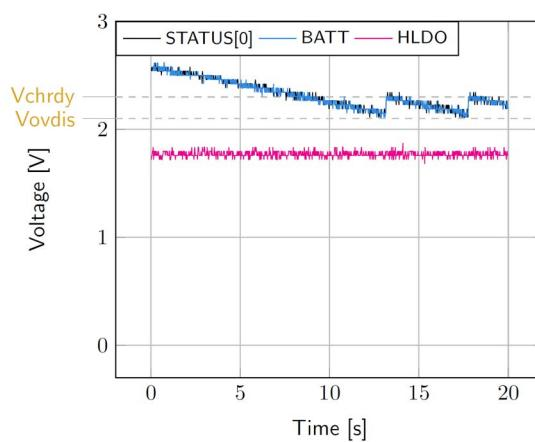

Figure 6: Switching from **SRC** to the primary battery
- **BATT**: voltage decreases as the system consumes the power accumulated in the storage element. The voltage reaches  $V_{\text{OVDIS}}$  and then rises again to  $V_{\text{CHRDY}}$  as it is recharged from the primary battery (see Figure 6).
- **STATUS[0]**: never de-asserted as the LDOs are still functional (see Figure 6).
- **HVOUT**: stable and not affected by switching on the primary battery (see Figure 6).